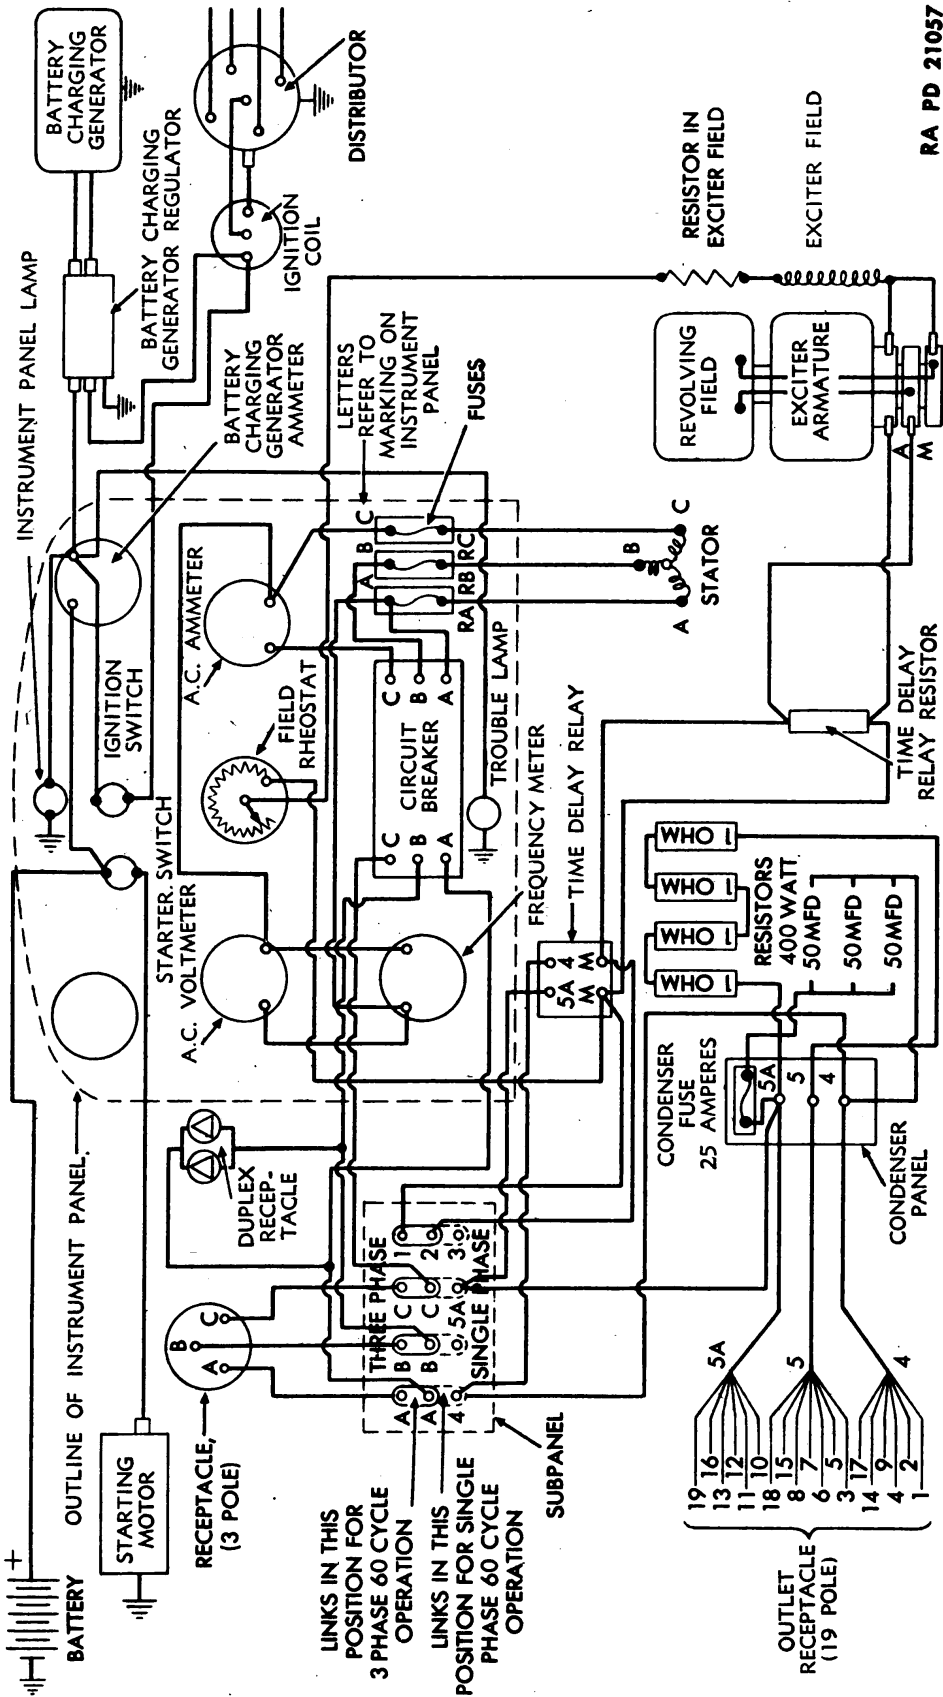

Figure 41 — Wiring Diagram — Single-phase and 3-phase Generating Unit M6
a. **General.** Differences exist in the wiring of the M5, M6 single-phase, and the M6 single- and 3-phase generating units. Figure 39 applies to all M5 Units, figure 40 applies to M6 single-phase Units (serial numbers 1 to 266, and 367 to 376 inclusive). Figure 41 applies to M6 single- and 3-phase Units (serial numbers 267 to 366, and 377 to 726 inclusive).